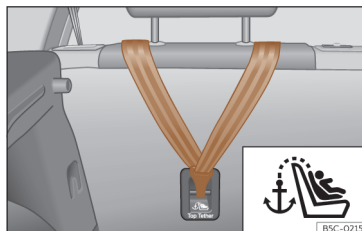
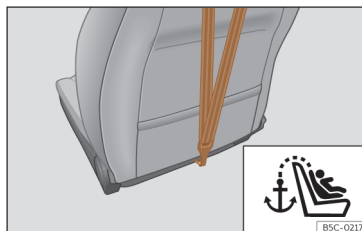

Fig. 41 Rear part of the rear seats: Top Tether strap anchor.
Fig. 42 Rear of front passenger seat backrest: Top Tether strap anchor (not available on all markets).
- Slide the strap and secure it properly with the anchor on the rear seat backrest >>> Fig. 41 , >>> Fig. 42.